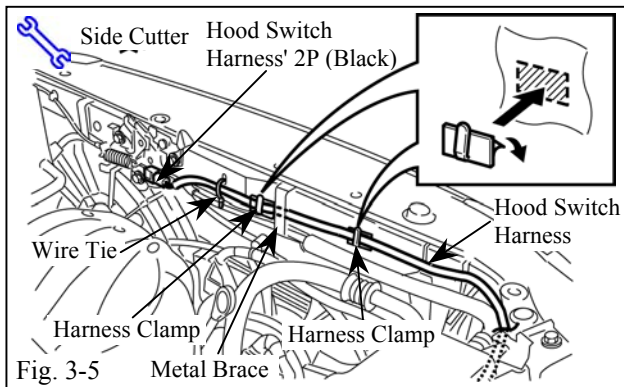

Fig. 3-5
- (g) Plug in the hood switch harness' black 2P connector to the hood switch. (Fig. 3-5)
- (1) Verify the connectors are plugged in securely.
- (h) Route the RES harness in the opening between the metal brace and engine compartment support member, then secure the hood switch harness to the engine compartment support member with one wire tie and two harness clamps. Clean engine compartment area with cleaning solution where harness clamps are installed. (Fig. 3-5)